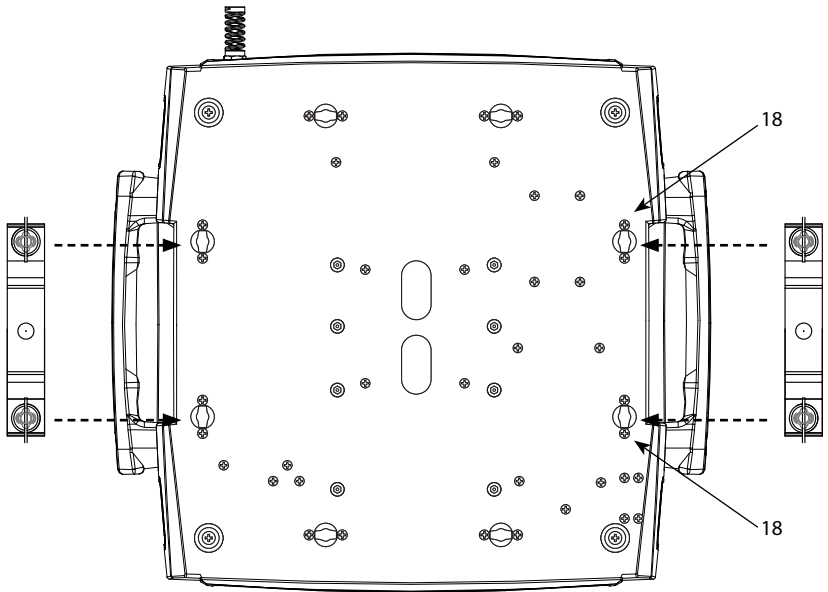

Fig.4
The Z1200WASH may be set up on a solid and even surface. By means of the fixing facilities of the base plate, the unit can also be mounted upside down to a cross arm. The base plate is shown in fig.4. For fixing, stable mounting clips are required. According to the figure, the bolts of the brackets are placed into the openings (18) provided in the base plate and turned clockwise until they lock (to the stop). The mounting place must be of sufficient stability and be able to support a weight of 10 times of the unit's weight.